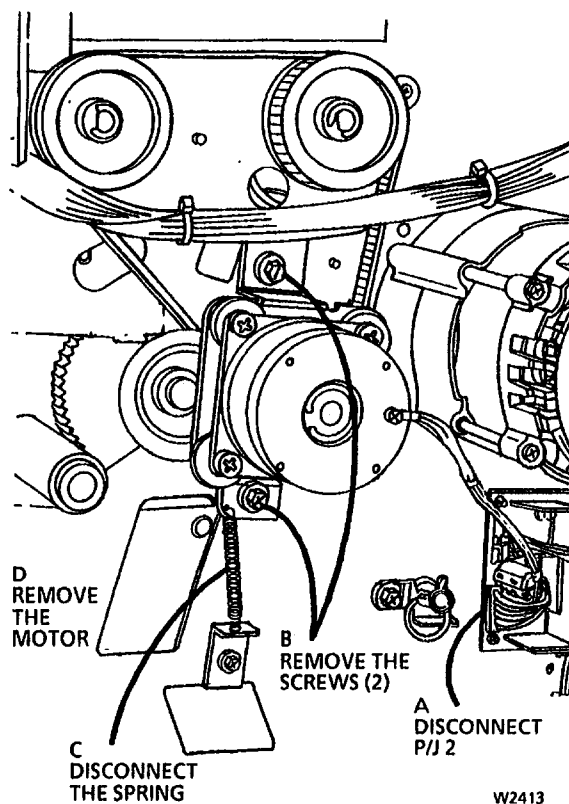

Figure 1. Removing the Document Drive Motor
2. (Figure 1): Remove the Document Drive Motor.